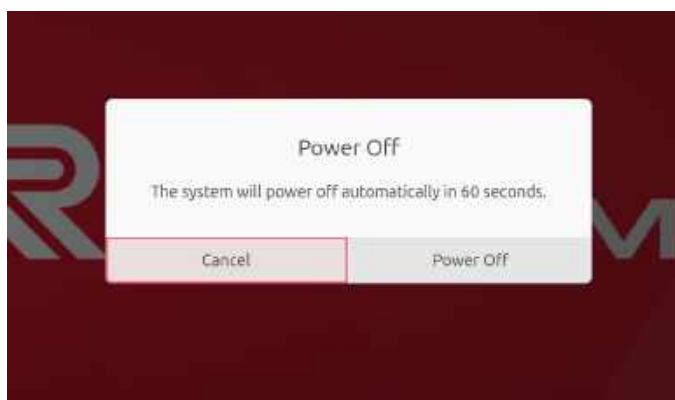

Fig 22
39. Turn the controller off by momentarily pressing the power button. A confirmation dialog will open. (Fig 22)